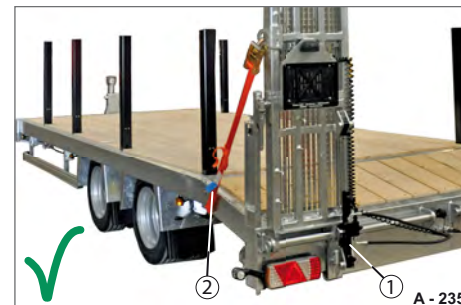

Fig. 112 Ramps, securing
- ▶ Also attach, if provided, the ratchet strap (Fig. 112/2) - turn to page 151.